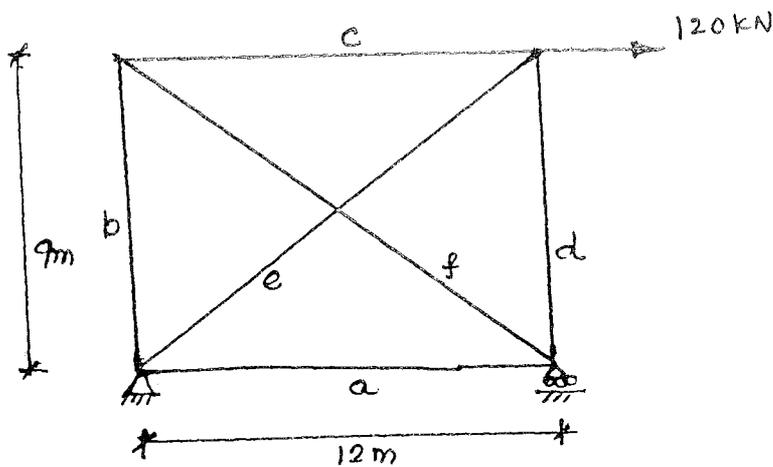

Fig. 3
- (b) Determine the forces in the members of the truss shown in Fig. 3 by flexibility method. Assume $\frac{l}{AE} = 1$ for all members.